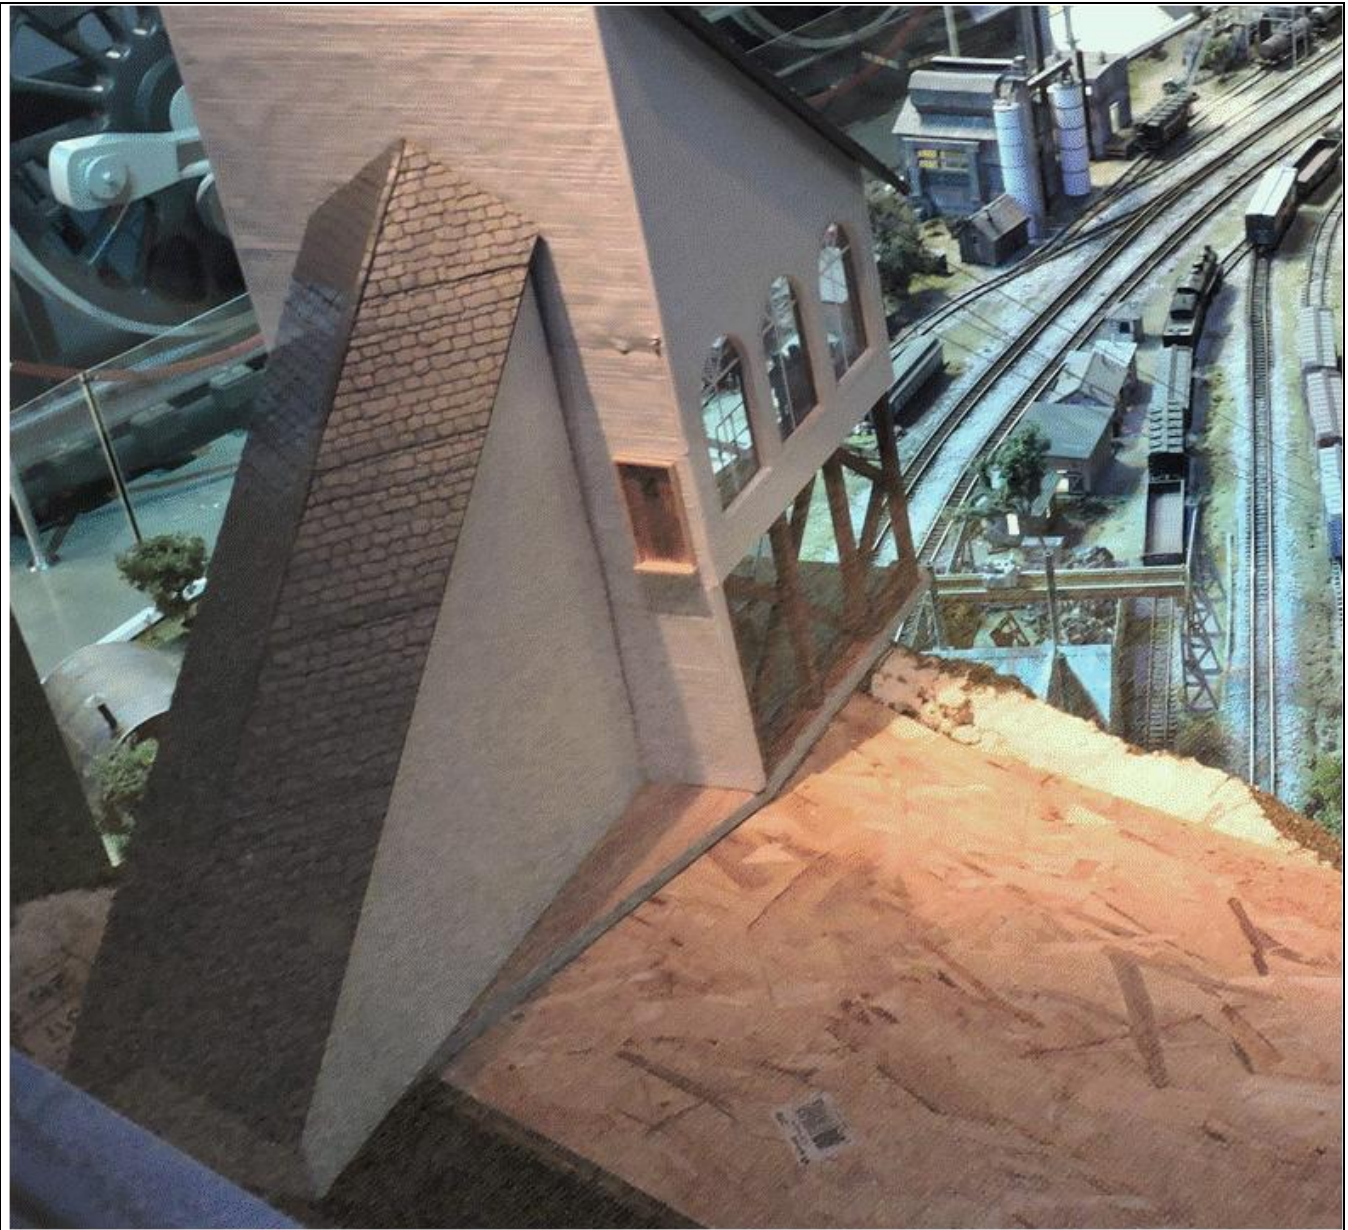

Figure 1. Upper Tram Station Emergency Exit
With the move of the restaurant to some distance away from the EnterTRAINment Junction (EJ) Upper Aerial Tramway Station, as described in last month's report, the idea of an elevated walkway from the tram station to an upper floor of the restaurant has become unrealistic. A more realistic solution is that tram customers would ride an elevator between the station platform and ground level. That makes the door at the back of the station, seen in Figure 1, just an emergency exit. However, that also requires the addition of a stairway to get down to ground level. That stairway is the subject of this report. Adding the elevator, on the other hand, would be quite simple. All it requires was the addition of an elevator door at platform level to the central support column inside the station and an access door at ground level in the side of the rear station extension that would lead to the ground-level elevator door inside. Adding a tall stairway, however, is a bit more work.